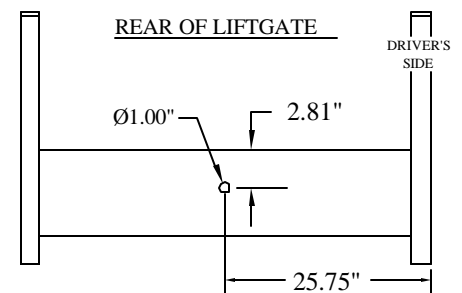

Figure 5 : Spare tire access hole location.
Step 2: **Drill** a 1" hole in the back of the mainframe as shown in **Figure 5** .